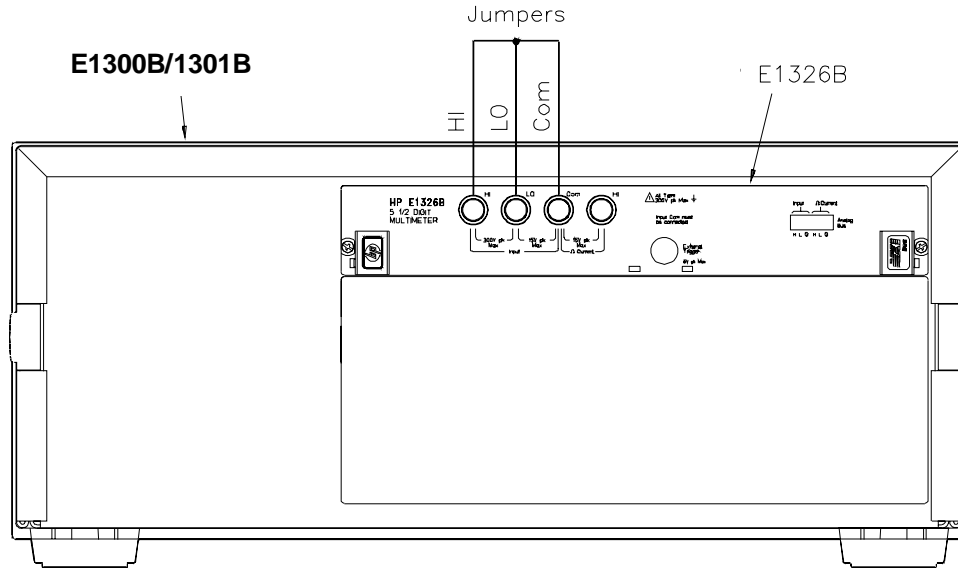

Figure 4-1. DC Voltage (Zero Volt Input) Setup
- Equipment Setup** 1. Connect the equipment as shown in Figure 4-1.